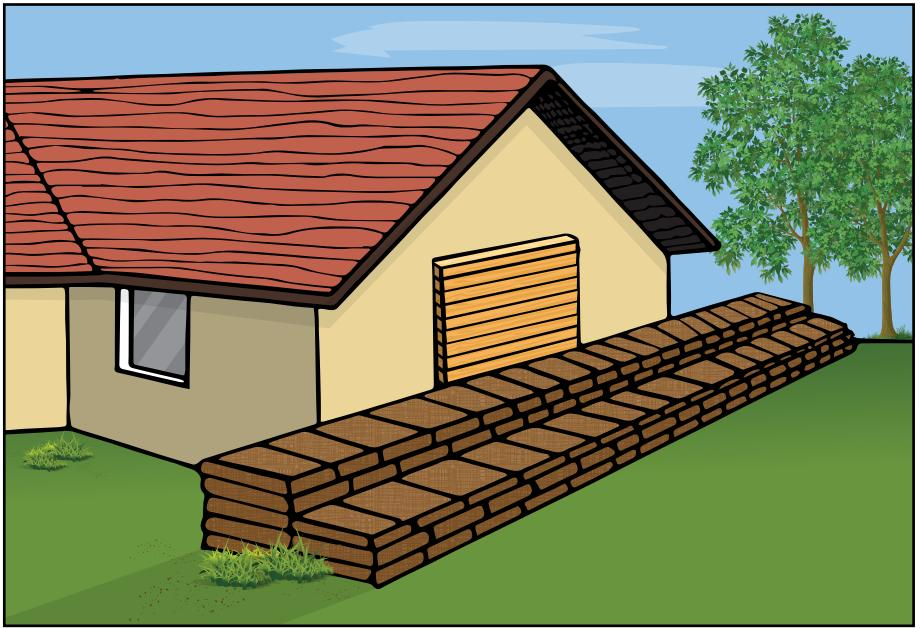

Fig. 5 - Sandbag Stacking Against Buildings
- **USE** your house or building as a deflector, if necessary. (*Fig. 5, page 15*).
| PLACE  | sandbags against the house if debris deflector required is greater than 3 feet (Fig. 5, page 15).       |